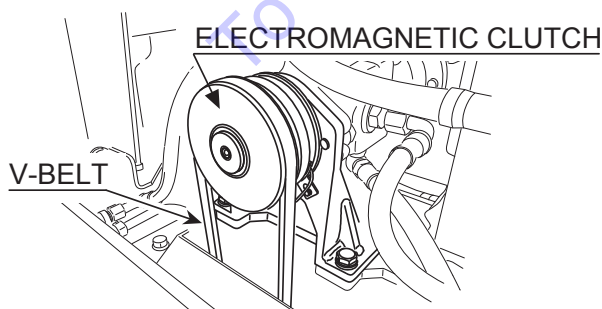

Figure 5. Checking V-Belt Tension
1. Check the looseness of V-belt. When the tension is low, the vibration become weak or V-belt tends to get damaged (Figure 5).